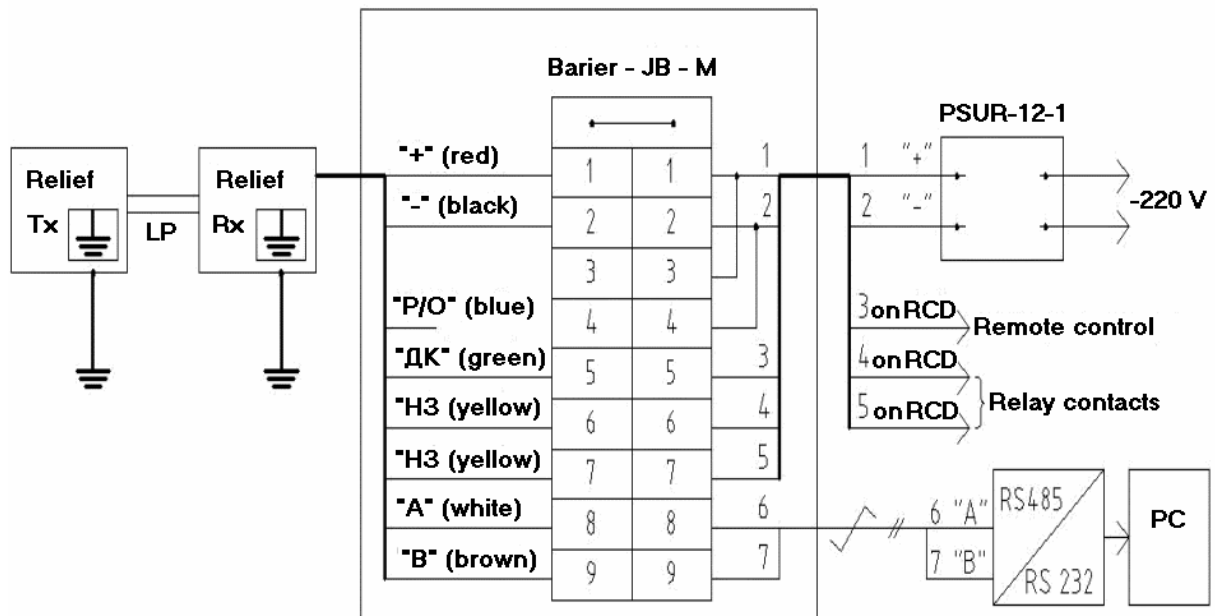

Fig.2.7 Connection of the Detector to the Junction Box
2.5.1. Connect the Rx output cable to the contacts of a junction box according to the marking and fig. 2.7.